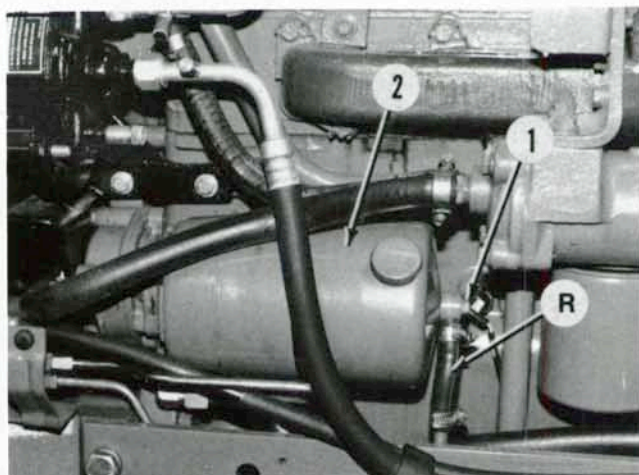

Fig. 56—Power steering pump and reservoir assembly is located on left side of engine.
37. The integral power steering pump and reservoir are mounted on left-hand side of engine. It is recommended that power steering fluid and filter be renewed after every 600 hours of service as follows: Disconnect return line hose (R—Fig. 56) from reservoir. Remove retaining bolt (1), then withdraw reser-